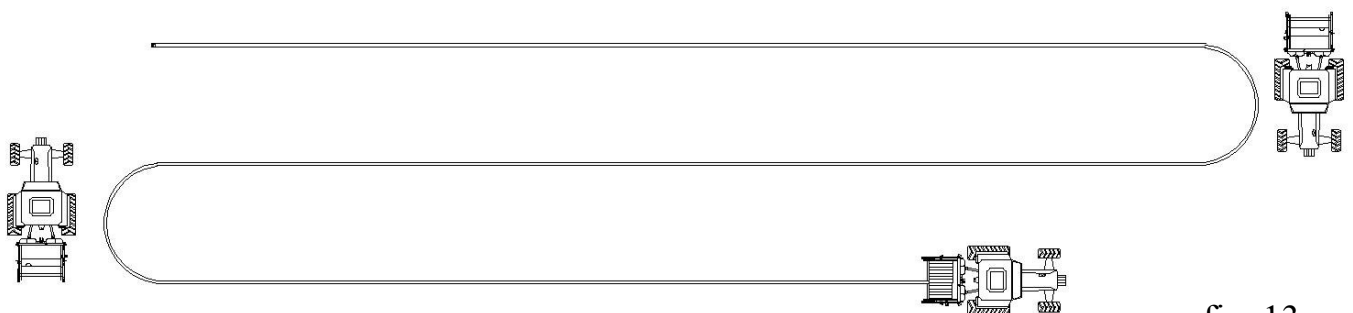

fig. 13
- **Unroll the whole hose** on the ground without putting one segment on another and trampling on it, by leaving at the end of the plot the necessary space for turning around with tractor (fig. 13).